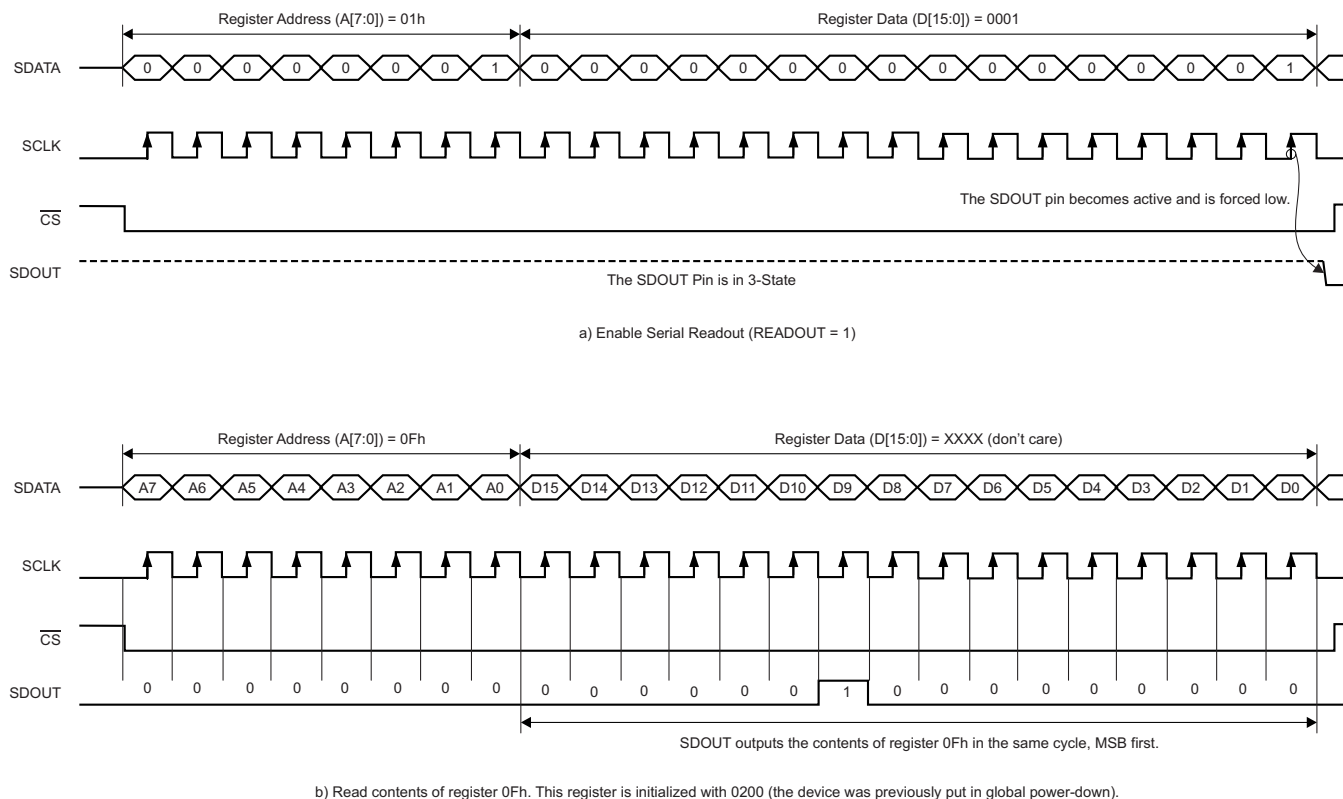

Figure 75. Serial Readout Functional Diagram
1. Set the EN_READOUT register bit to '1'; see Figure 75(a). This setting puts the device in serial readout mode. This mode prevents any further writes to the internal registers, *except* for at register 01h. Note that the EN_READOUT bit is also located in register 01h. The device can exit readout mode by setting the EN_READOUT bit to '0'. Note that only the contents of register 01h are unable to be read in register readout mode.
3. The device serially outputs the contents (D[15:0]) of the selected register on the SDOOUT pin; see Figure 75(b).